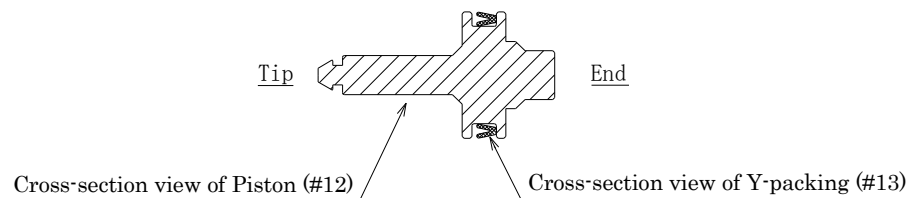

Fig. 4 Correct orientation of Y-packing
- (1) Before assembly, confirm that the sealing surfaces indicated with ☆ on the previous page and the orifice are clean and undamaged
- (2) Pay attention to the orientation of the Y-packing (#13) when installing it to the piston (#12). Fit the Y-packing with the groove side facing the tip of the piston as shown in Fig. 4.